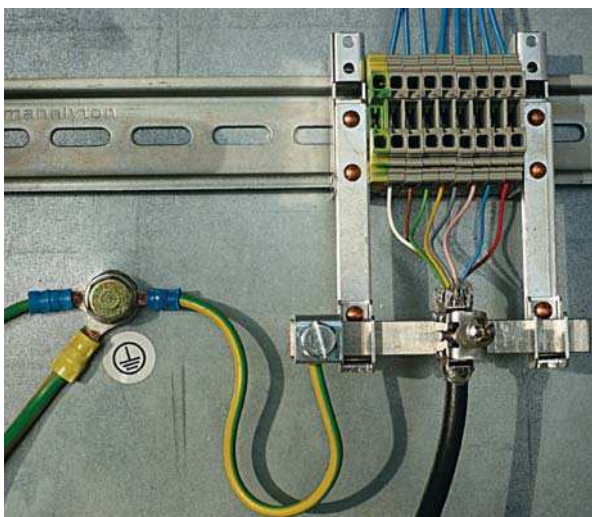

Figure 7.2: Connecting the cable shielding in the switch cabinet
- ↪ Clamp the shield in the switch cabinet flat to FE (see figure 7.2). Use special shielding terminals (e.g., Wago, Weidmüller, ...).